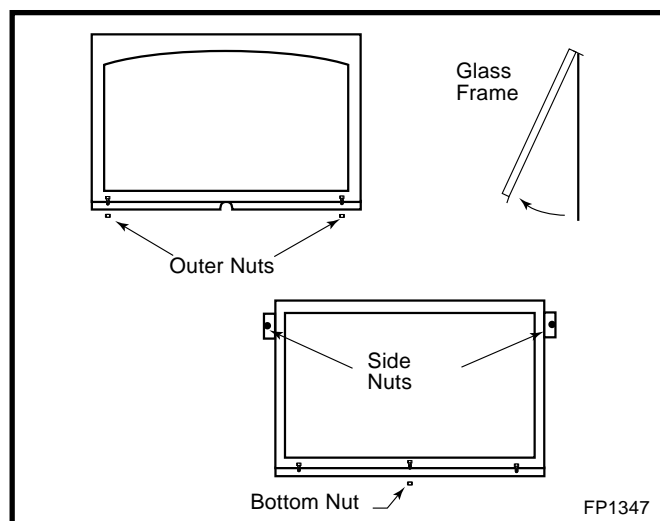

Fig. 30 Glass removal.
1. Remove the two (2) outer 3/8" nuts holding the frame window brass trim in place. (Fig. 30)
3. Remove 3/8" nut from each side of the frame window. (Fig. 30)